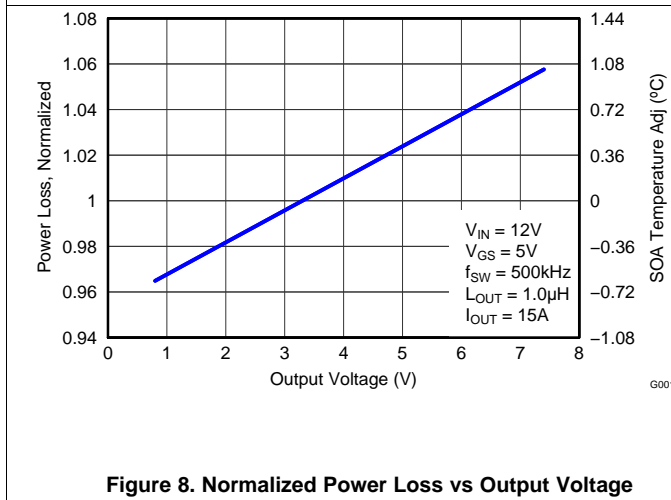

Figure 8. Normalized Power Loss vs Output Voltage
- Normalized power loss for output voltage \approx 0.96 (Figure 8)
- SOA adjustment for output voltage \approx - 0.2°C (Figure 8)